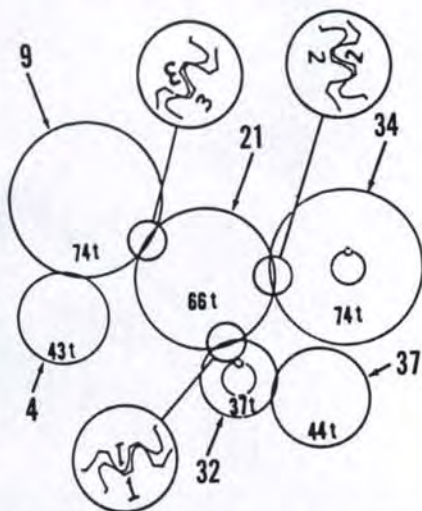

Fig. 30—Schematic view of timing gears on Model L260 showing timing marks. Refer to legend in Fig. 29 for identification of gears.
26. TIMING GEAR HOUSING. Timing gear housing can be removed from front face of cylinder block after injection pump and all timing gears have been removed. When installing housing, make sure that lubrication pressure passage (49—Fig. 28) is open and clean and that hydraulic pump mounting hub (27) and injection pump mounting base (13) are both installed with lube passages aligned. Time gears as shown in Fig. 30 when tractor is reassembled.